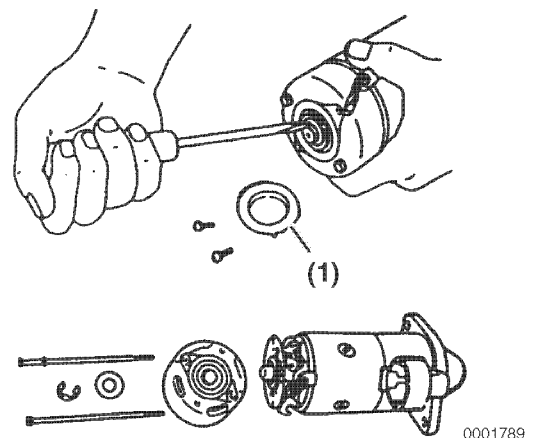

Figure 8-7
6. Remove the rear dust cover (**Figure 8-7, (1)**).
7. Remove the E-ring, and remove the thrust washer (**Figure 8-7**).